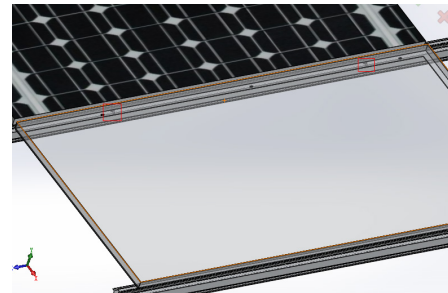

Figure 22
5.5.1 Slightly lift the PV module and stick the hook of the Grounding Clip onto the Rail 60, and then press the PV module on the Grounding Clip. It is recommended that 2 x Grounding Clips per panel are used. (Two at 1/4 of both ends of the PV module as shown in Figure 22.)